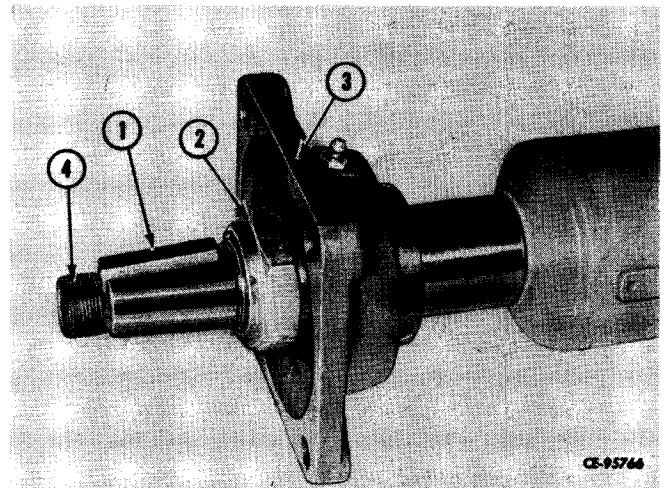

Figure 5-14
Install center bearing (3, Fig. 5-14) on end of drive shaft (4) and install and tighten new lock nut (2). Tighten to recommended torque (refer to "SPECIAL TORQUES").